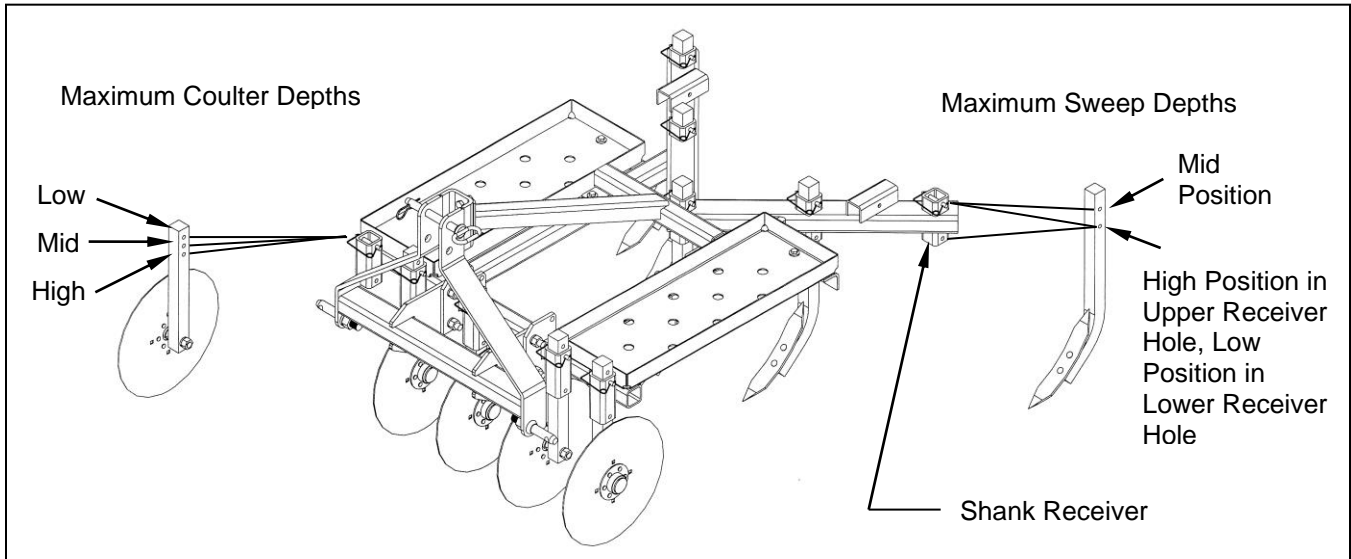

Figure 4. – Shank Adjustment
**E. ADJUSTING THE SHANKS AND COULTER SHANKS – Refer to Figure 4.**